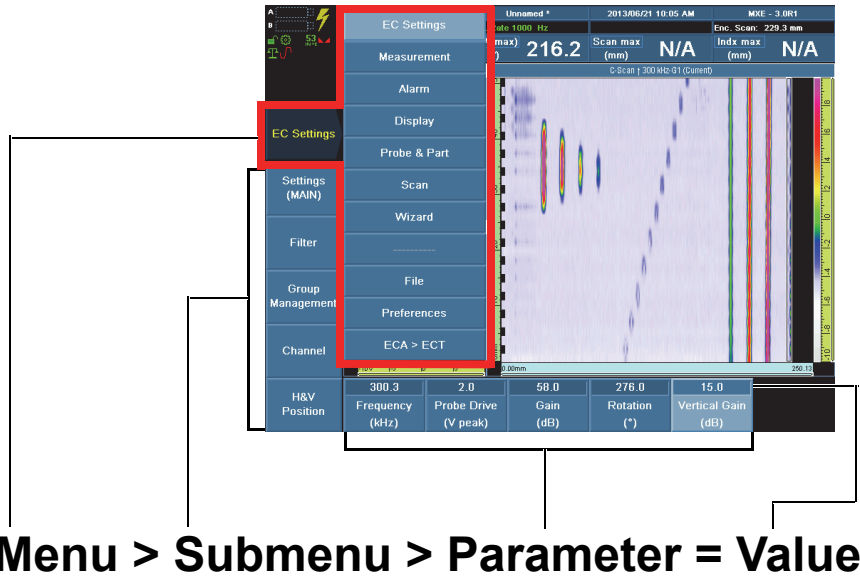

Figure 2-6 Menu, submenu, parameter structure, and navigation syntax
The OmniScan MXE software user interface provides access to parameters using three levels of buttons arranged on the left side and at the bottom of the screen. Figure 2-6 on page 32 outlines the syntax used throughout this document to specify the selection of menu, submenu, parameter buttons, and when to enter or select parameter values.
The navigation syntax outlined in Figure 2-6 on page 32 is a short expression of the procedure detailed in section 2.3.1 on page 32.
1. Press the menu button, and then choose the desired item from the menu list that appears on the right of the button (see Figure 2-6 on page 32).